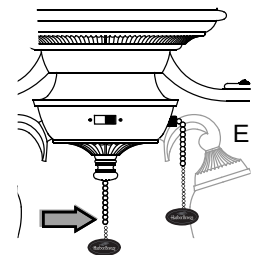

Fig. 2
2. Pull the light pull chain, labeled LIGHT on the switch housing (E), to turn the lights ON or OFF. [Fig. 2]